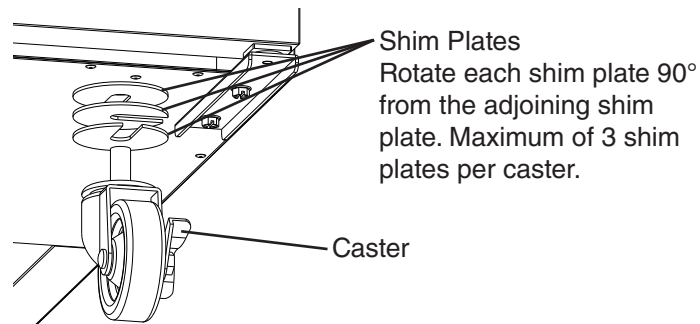

Fig. 3
- 3) Position the necessary number of shim plates in place (no more than 3 per caster). If using more than one shim plate, rotate each additional shim plate 90° from the adjoining shim plate so that the slots are not aligned. See Fig. 3.